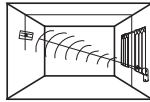

Fig 3
For optimal performance the Wireless VITRON should be mounted as nearly opposite to the glass area to be protected, as shown in Fig 3.
- Opposite Wall – Mounted** (For optimal results, Wireless VITRON is centered opposite glass, see Fig. 3).